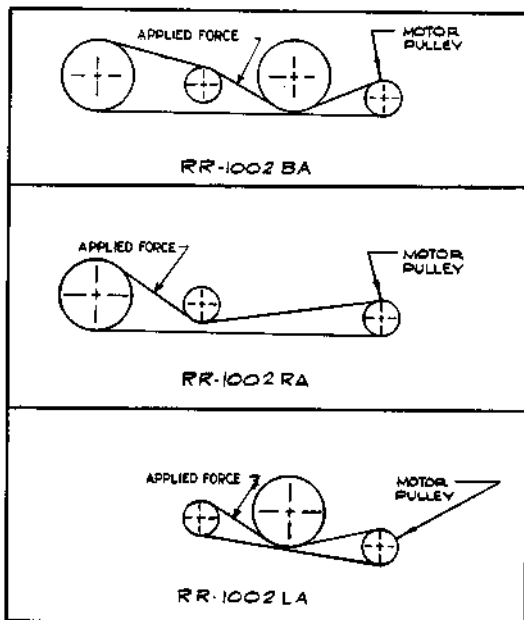

Figure 5-7.
- d. Install the new belt. Figure 5-7 illustrates the routing of the belt.
- f. Apply a force of 6 ounces \pm 1 ounce as shown in Figure 5-7. This should produce a deflection of approximately 1/8 inch.